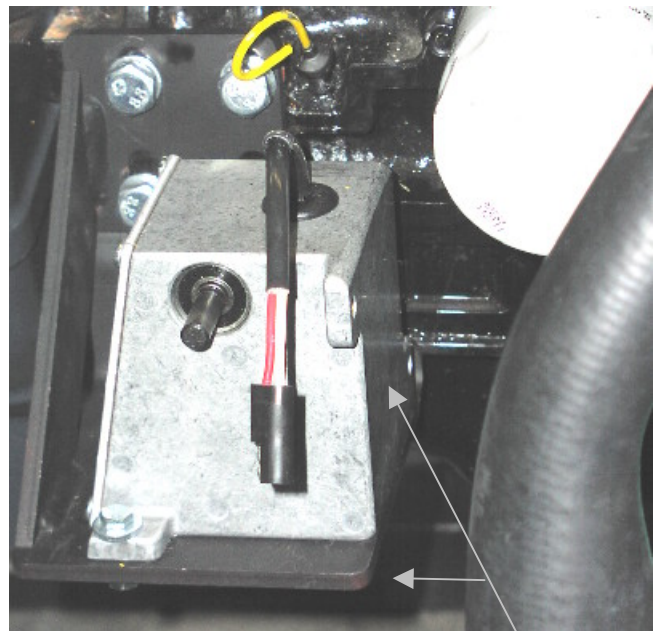

Figure 5 – Slide actuator to the right so that the right side of the actuator is flush with the right edge of the bracket.
Place an M6 Flatwasher (13a) on each of the M6 x 25 bolts (10a). Position the actuator on top of the bracket so that the bolt-holes are aligned. See Figure 5. Place the bolts through the actuator and bracket. Put an M6 Lockwasher (12) and M6 Nut (11a) on each bolt and hand-tighten. Again, the holes on the bracket that are used to hold the actuator are slotted so that the actuator can be positioned for optimum performance. Slide the actuator towards the Run/Stop Lever until it is flush with the rightmost edge of the Bracket (1). See Figure 5. Check that there is sufficient clearance between the actuator and its surrounding environment. Tighten the actuator mounting bolts (10a) to 120 in. lb. Place Actuator Lever (9) on the actuator shaft but do not tighten at this time.